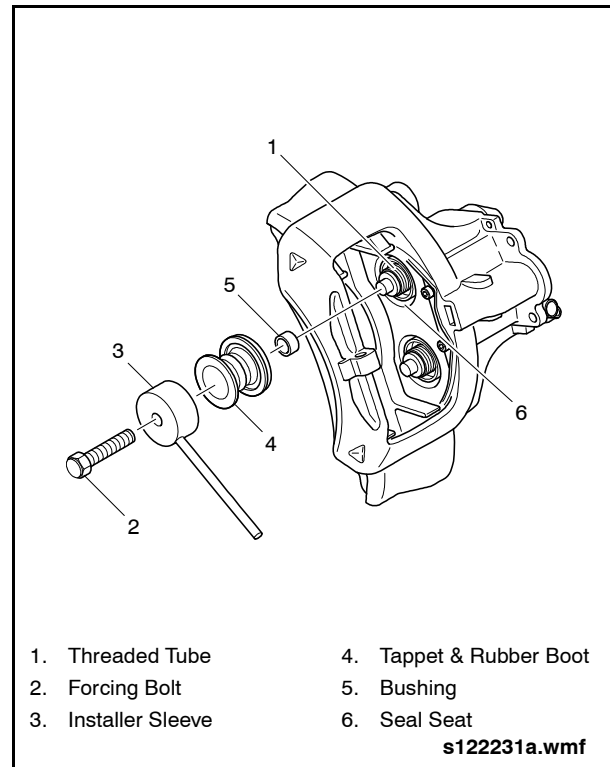

Fig. 7: Installing Tappet & Rubber Boot
9. Hold the installer sleeve (Item 82 from special tools list) against the rubber boot and use the long forcing bolt to press the rubber boot against the stop in the seat. See "Fig. 7: Installing Tappet & Rubber Boot" on page 7.